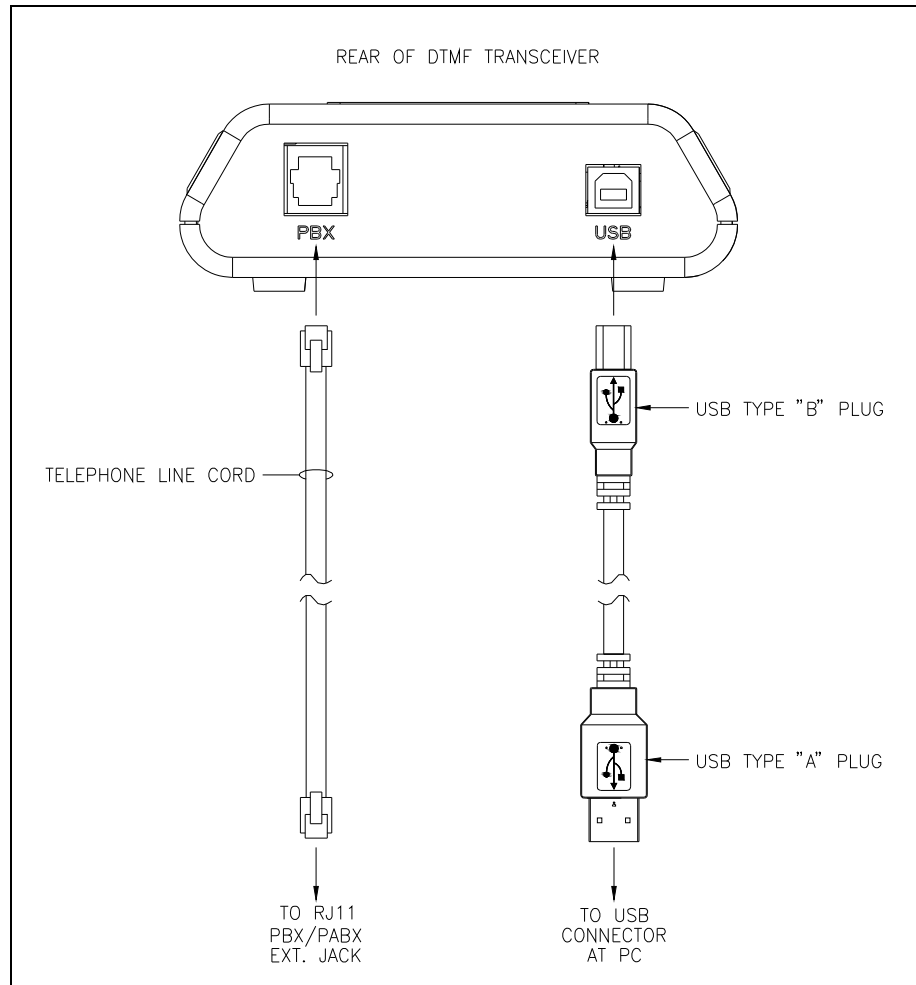

Figure 1. TMA DTMF Transceiver Connections
1. With the TMA software installation complete, the TMA DTMF Transceiver must be connected to the PC and PBX/PABX extension telephone line using the USB cable and telephone line cords provided. Refer to Figure 1 below and the following guidelines for these connections: